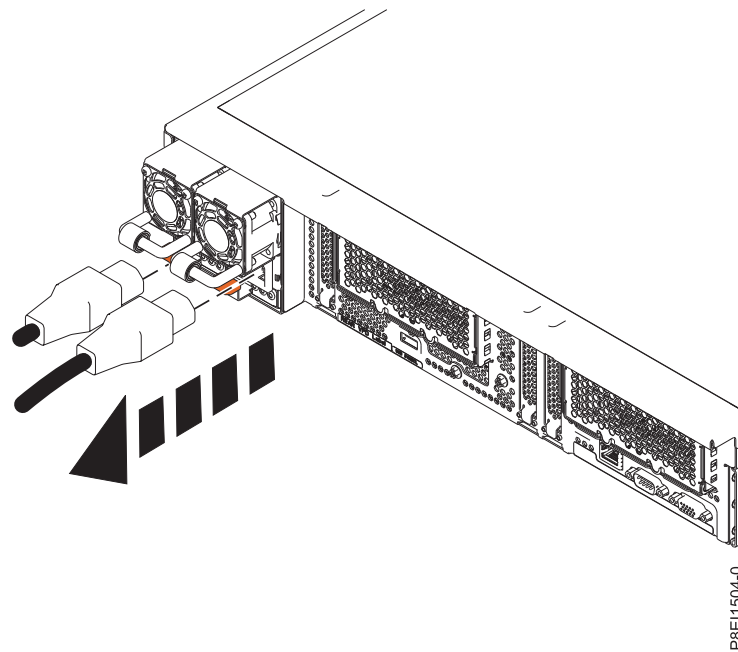

Figure 75. Disconnecting the power cord from the power supply
- a. Label the power cord, and then unstrap the hook-and-loop fastener to release the power cord from the power supply handle. Refer to Figure 75.